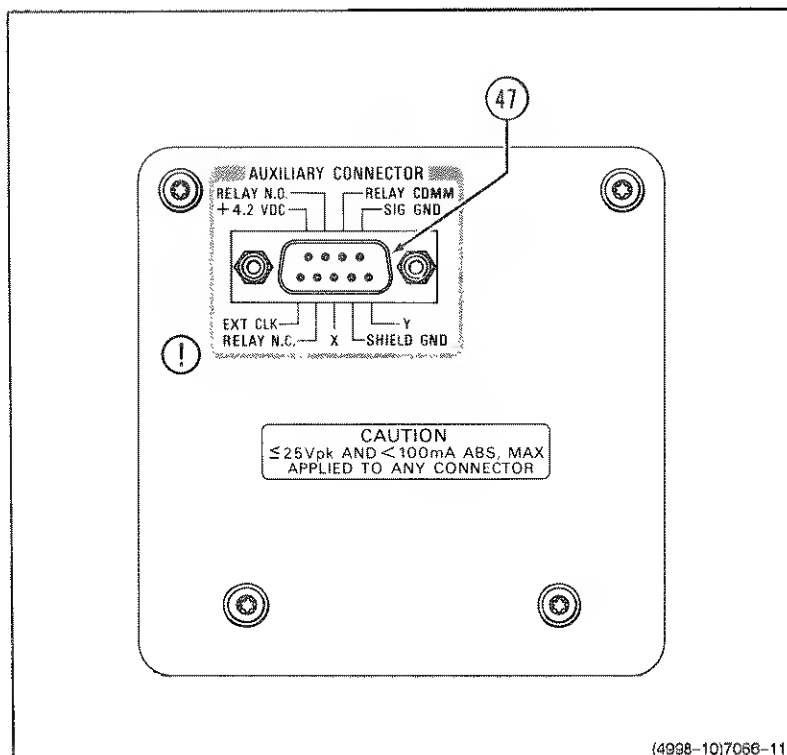

Figure 3-8. Side panel.
The standard side panel includes one AUXILIARY CONNECTOR. Refer to Figure 3-8 for the location of item 47.